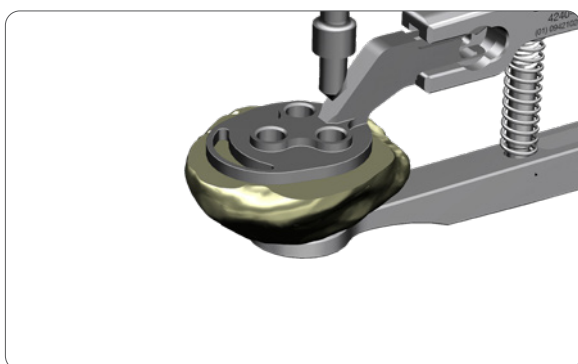

Figure 38
11. Select the appropriate diameter Patella Drill Guide and slide it onto the Patella Reamer Guide. Attach the Patella Reamer Guide Assembly to the reamed patella and tighten the reamer guide on the patella (**Figure 38**).
12. Use the Patella Peg Drill to drill the three pegs through the Patella Drill Guide until the drill bottoms out in the guide (**Figure 38**).